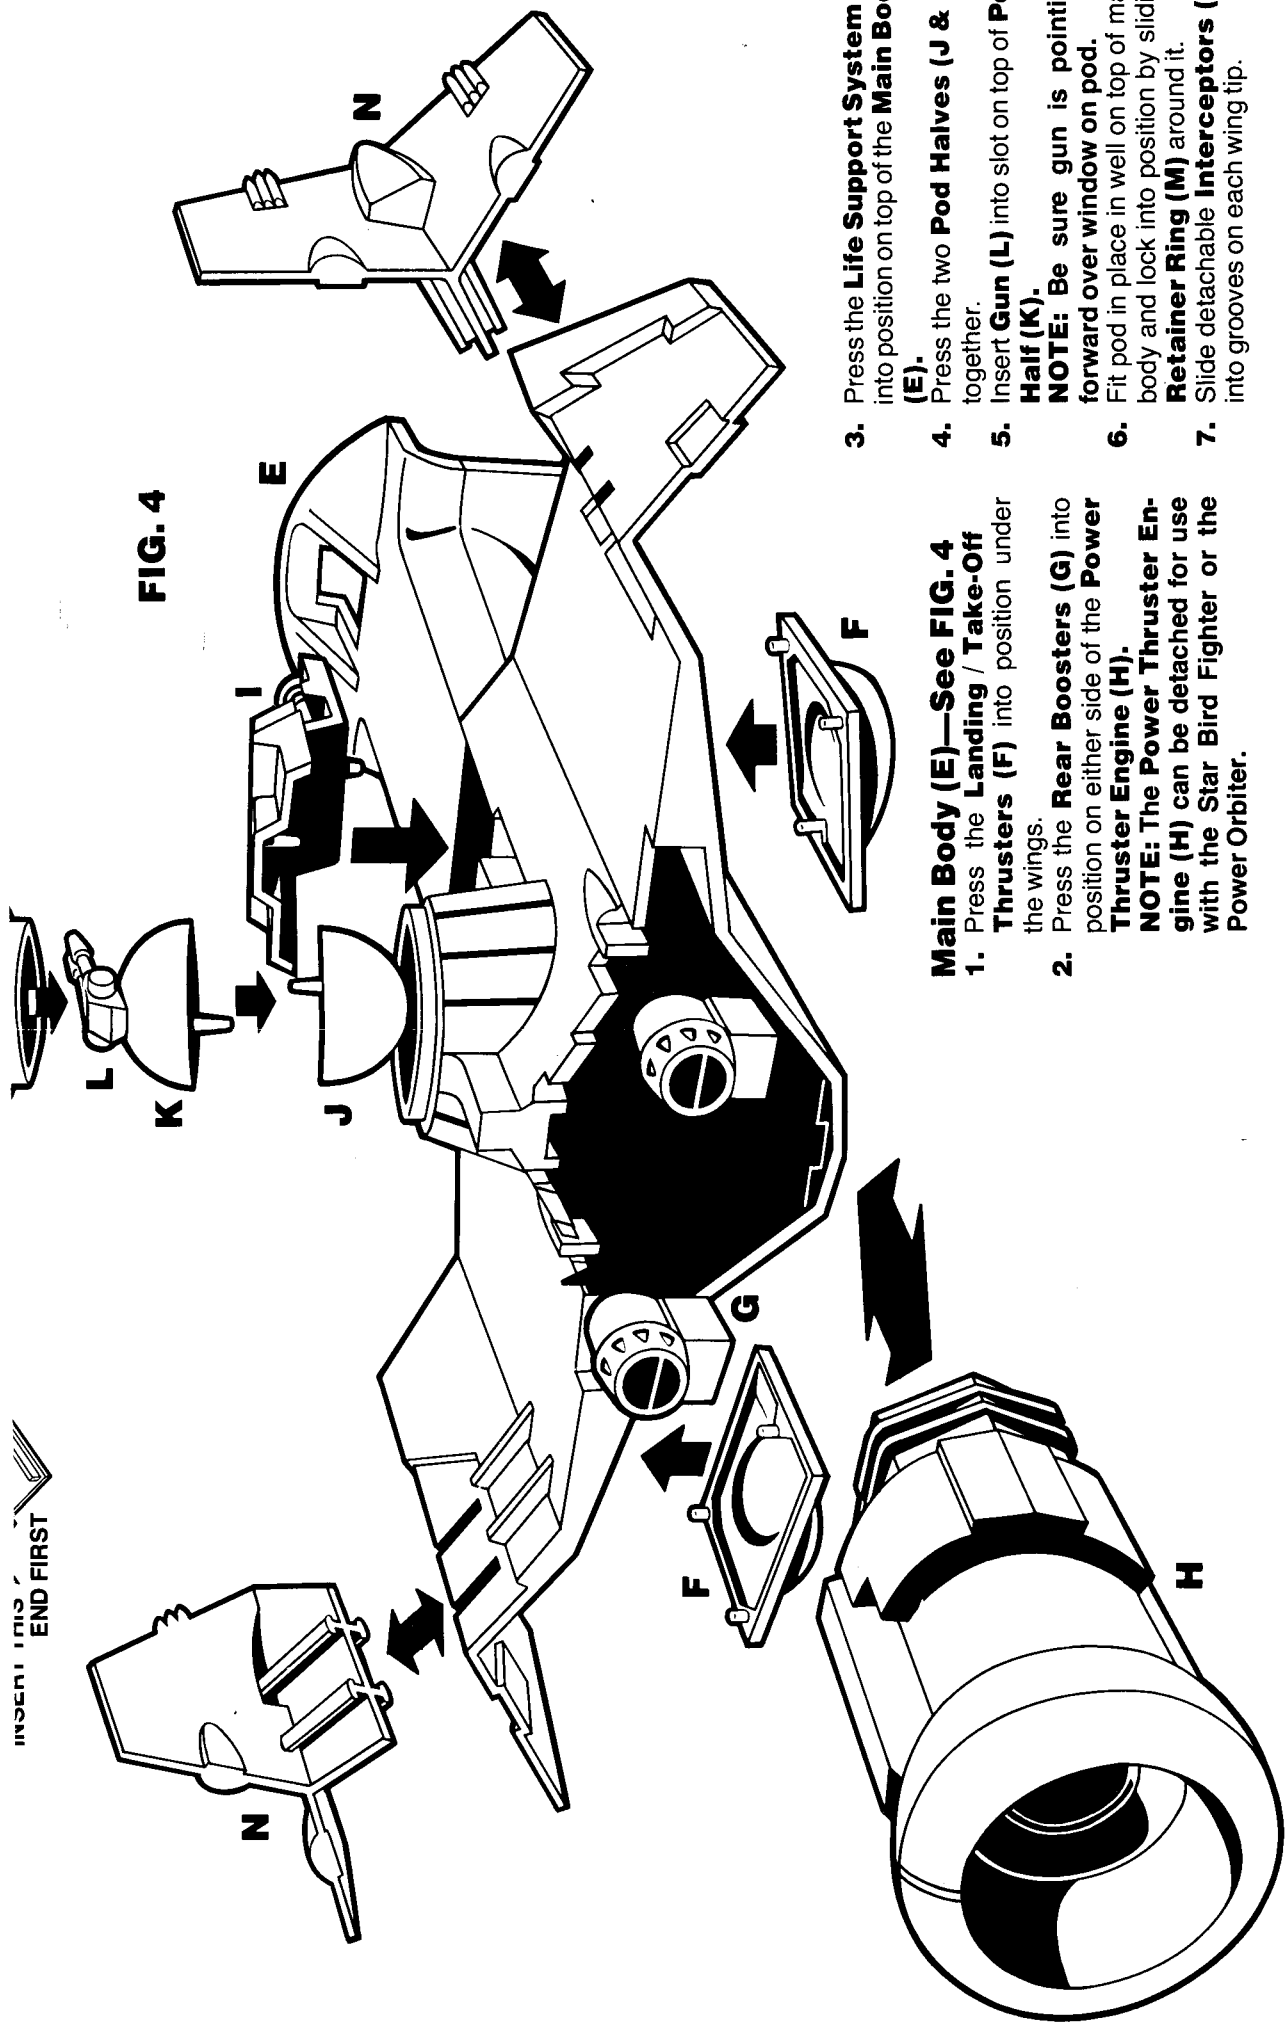

FIG. 4
3. Press the **Life Support System (I)** into position on top of the **Main Body (E)**.
5. Insert **Gun (L)** into slot on top of **Pod Half (K)**.
6. Fit pod in place in well on top of main body and lock into position by sliding **Retainer Ring (M)** around it.
7. Slide detachable **Interceptors (N)** into grooves on each wing tip.
**Main Body (E)—See FIG. 4**
1. Press the **Landing / Take-Off Thrusters (F)** into position under the wings.
2. Press the **Rear Boosters (G)** into position on either side of the **Power Thruster Engine (H)**.
**NOTE:** The **Power Thruster Engine (H)** can be detached for use with the **Star Bird Fighter** or the **Power Orbiter**.